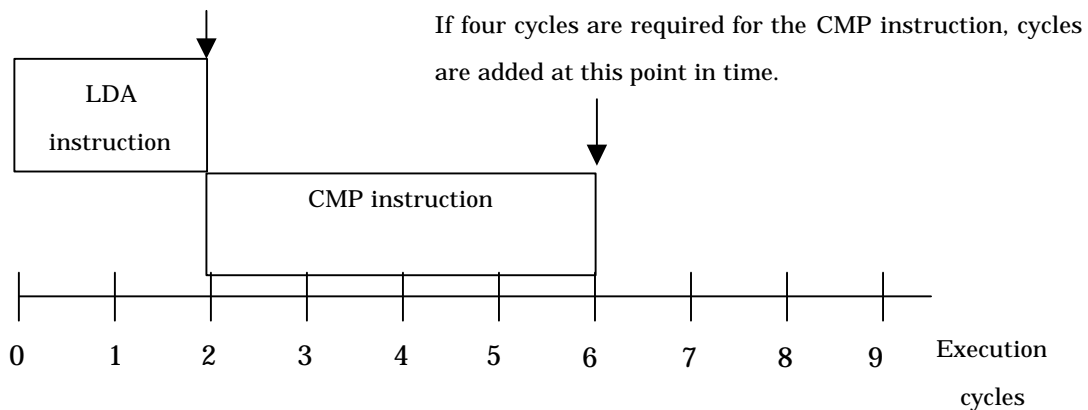

Figure 3.1 Method for measuring cycles
- PD38SIM starts counting cycles immediately after a reset. (Cycles immediately after a reset are 0.) The number of cycles needed to execute one machine instruction are added on for each instruction executed. (See Figure 3.1 shown below.)